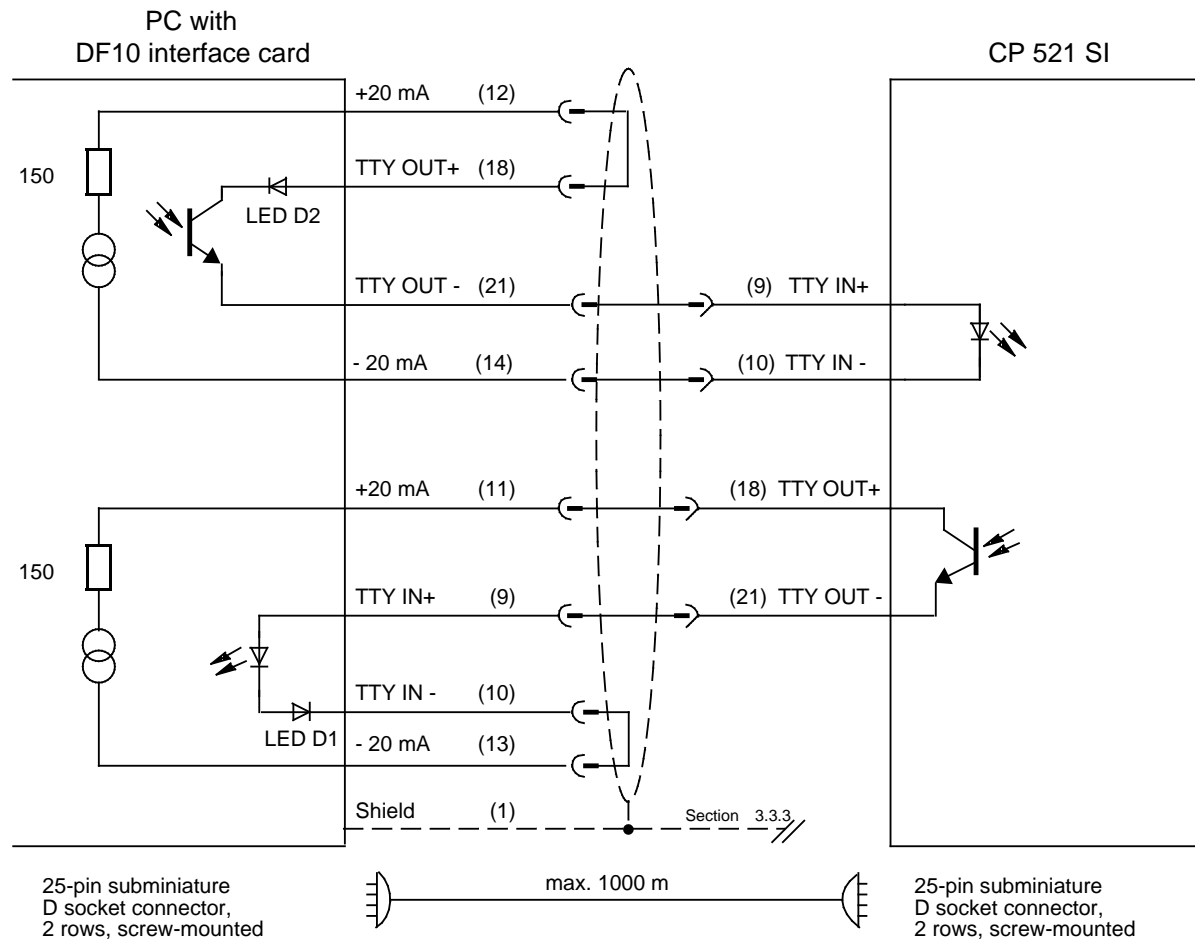

Figure D-6. Terminal Diagram for PC with DF10 Interface Card (TTY Active) - CP 521 SI (TTY Passive)
- Connecting cable No. 9AB4173- ____ - ____ Cable for connecting the CP 521 SI to the **PC DF 10 interface card, TTY** (Figure D-6)